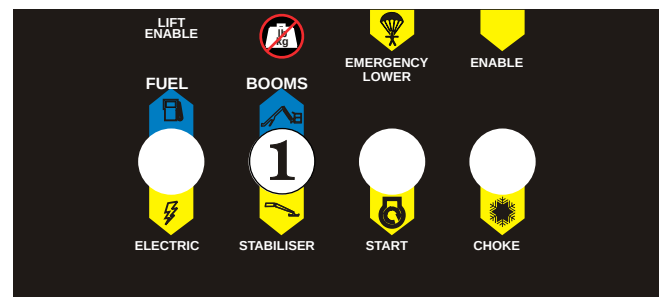

Figure 10.5 - Set Boom Stabiliser Switch
Ensure the Boom/Stabiliser Switch (item ① on the ground control box) (see Figure 10.5) is set to stabiliser.